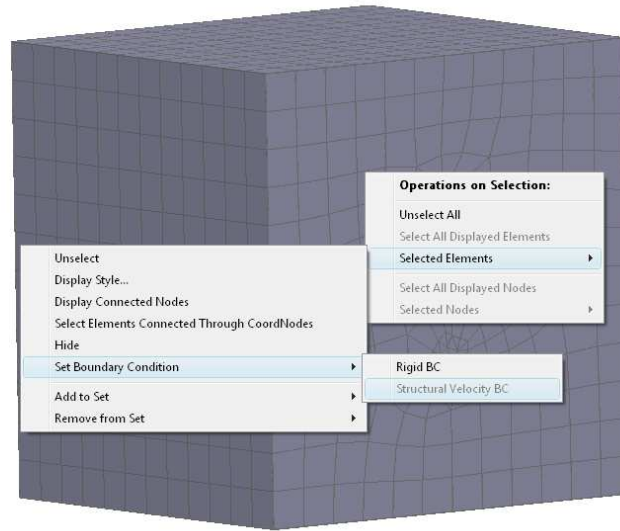

Figure 9.18: Apply boundary conditions through selected elements.
- Again right-click on the mesh while holding down the *shift-key* and select: **Selected Elements** → **Set Boundary Condition** → **Structure Velocity BC** (as shown in Figure 9.18). If the boundary condition **Structure Velocity BC** is inactive, it implies that it has already been applied over the selected elements.